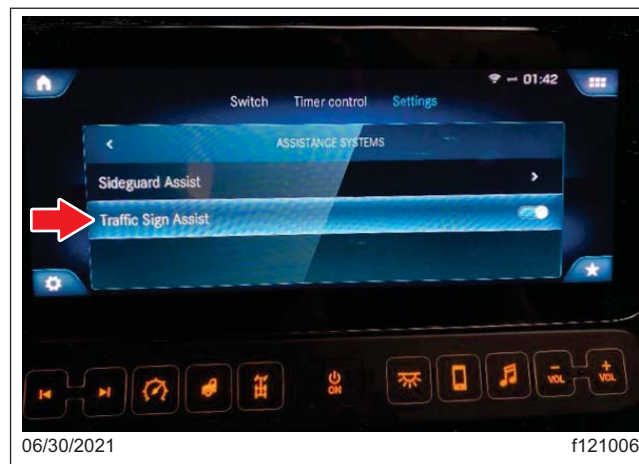

Fig. 11, Assistance Systems Screen in ICC5 Flat Screen Display
- For **ICC5 Flat Screen Display**, using the right-hand side (10-inch) touch screen display panel, go to 'Home,' 'Operation/Settings,' 'Assistance Systems,' and verify the 'Traffic Sign Assist' feature is available, and can be turned ON or OFF. See **Fig. 11**.